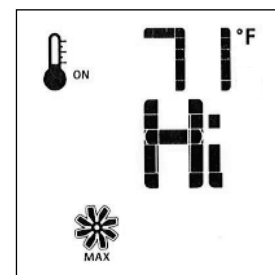

Fig. 15.16. Fan Speed.
- Use the Up/Down Arrow Keys to turn ON, OFF, or adjust the fan speed. Fig. 15.16. A single “beep” will confirm reception of the command. After a 5 minute interval, the fan will power up to its highest speed and then modulate down to the established fan speed setting. The fan will continue to operate for 12 minutes after the burner is turned off. Manual speed control is not available when the SMART Thermostat is ON.